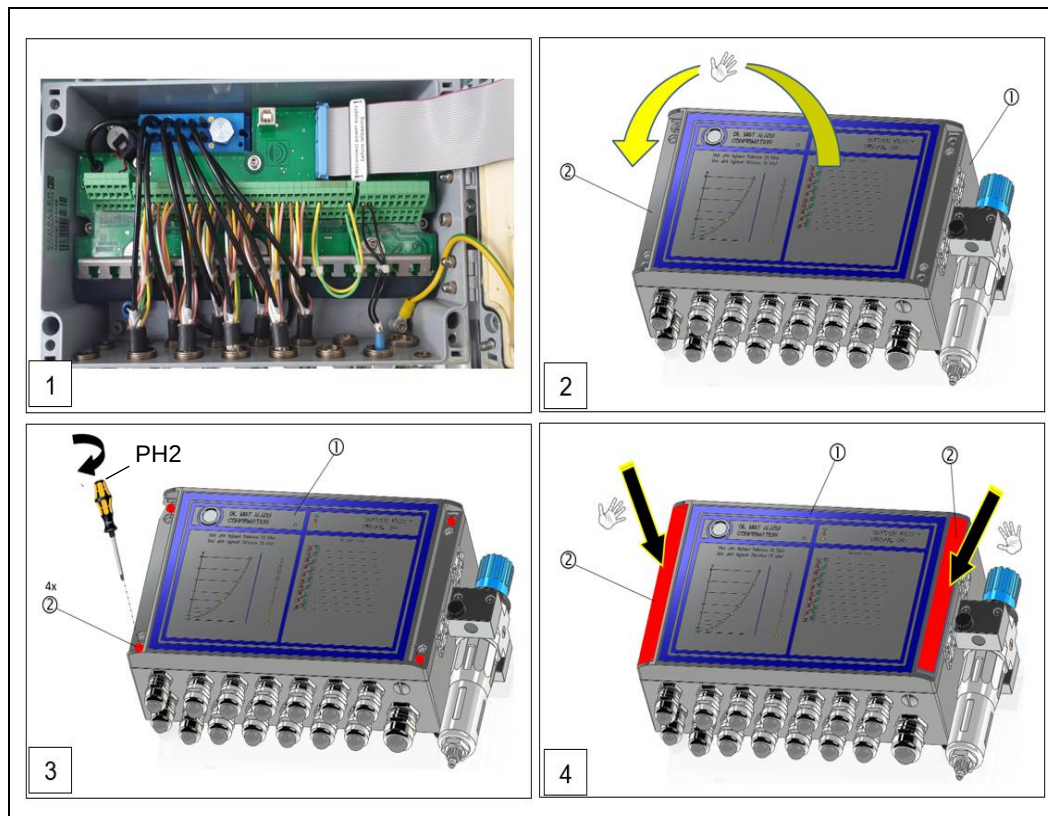

Fig.: 58 : Close the VN301^{plus} central unit (steps 1- 4)
3. Press the oil mist alarm confirmation button again. [①]
- The "Supply pressure" display mode is indicated by the LED for "Air Supply failure" [②] flashing.
- The current supply pressure level is now displayed on the OMC graph on the left-hand side. [⑤]
- The nominal pressure of 2.5 bar is indicated by the LED light for 50% OMC [⑥] turning on continuously.
- If the supply pressure of 2.5 bar is not achieved, the 50% OMC [⑥] LED flashes, as in the figure below. In this example, the supply pressure is only 2 bar and therefore has to be adjusted.
4. Set the supply pressure to 2.5 bar using the pressure regulator unit [①], as shown in Figure 58:
- Unlock the blue adjusting cap [②] on the pressure regulator, i.e. push it upwards.
- Turning the blue adjusting cap [②] anticlockwise reduces the pressure, turning it clockwise increases the pressure.
- Push the blue adjusting cap [②] on the pressure regulator down again to lock it.